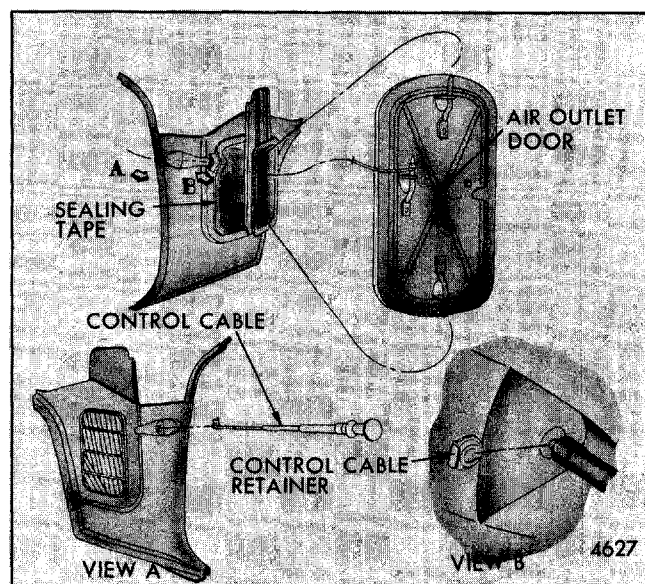

Fig. 4-6-Shroud Side Duct Air Outlet and Door
2. Integral air duct outlet in right and left shroud side finishing panels. Each duct outlet is equipped with a door and control cable (Fig. 4-6).
To remove control cable after finishing panel removal, slide eye of the control cable off pin on door assembly, remove control cable retainer (Fig. 4-6) located flush against back surface of finishing panel and remove control cable from finishing panel. To install, reverse the removal procedure.